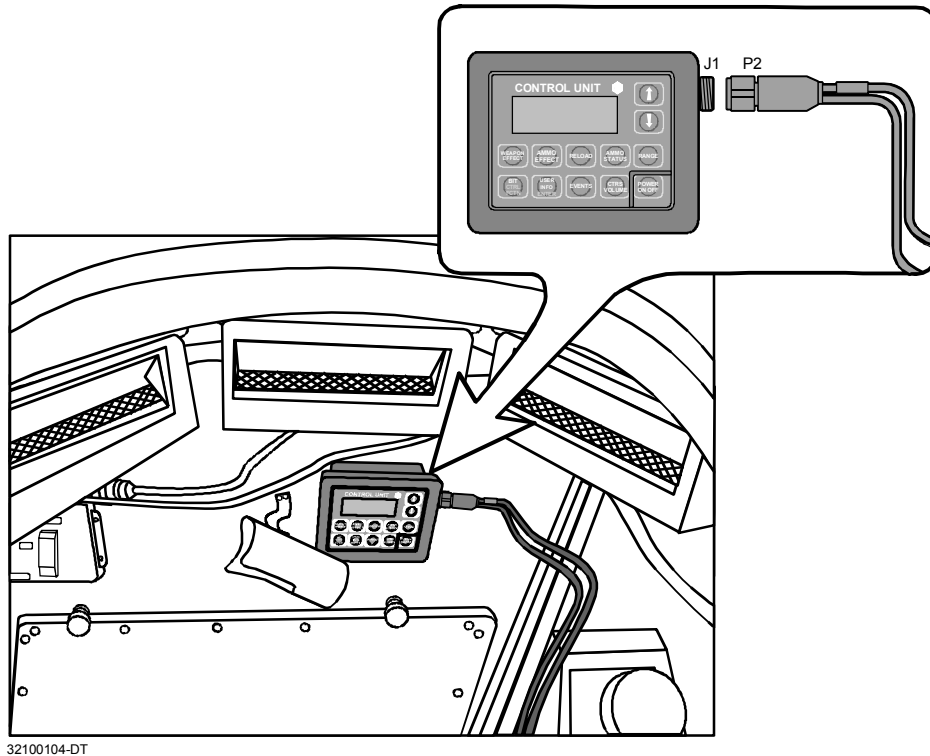

Figure 2-28. Control Unit (CU).
- l. Route segment (P2-red sleeve) to the CU, and connect (P2) to (J1) of the CU. (See Figure 2-28.)